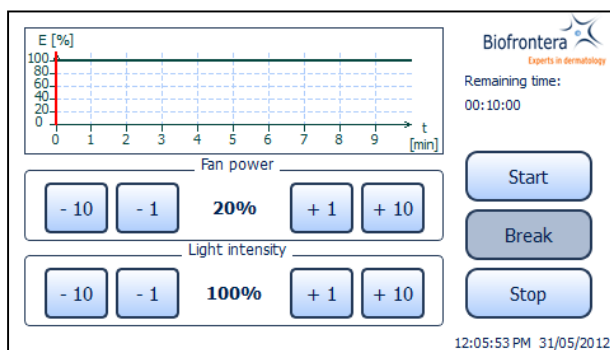

Figure 26: Profile standard
Figure 26 illustrates the "Profile standard". There are three buttons in the bottom right section of the screen. Start the treatment with the "Start" button, you can interrupt the treatment at any time via the "Break" button without setting the clock back. Press the "Start" button again to resume the treatment. End the treatment using the "Stop" button. You will automatically return to the treatment menu.
- Profile standard: light intensity is constant from the beginning to the end of the treatment (compare figure 26).